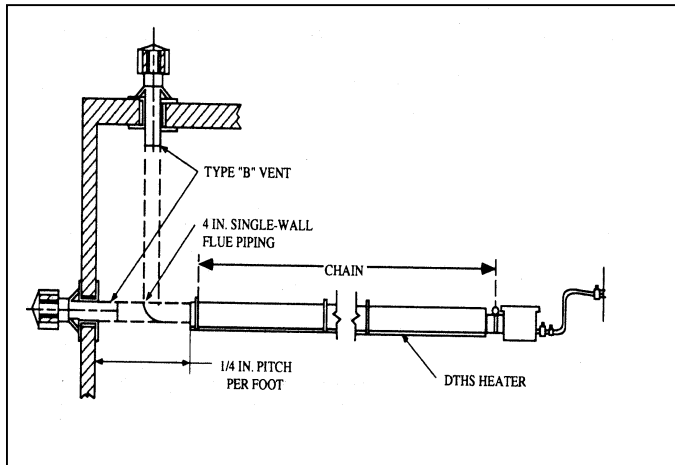

Figure 1-21
- All vent pipes must be sealed with high temperature sealant and (3) #8 sheet metal screws.
- Horizontal flues should be pitched down toward outlet,  $\frac{1}{4}$  in. per foot of the vent length, to prevent rain from entering the heater (see Figure 1-21). **Do not pitch heater.**